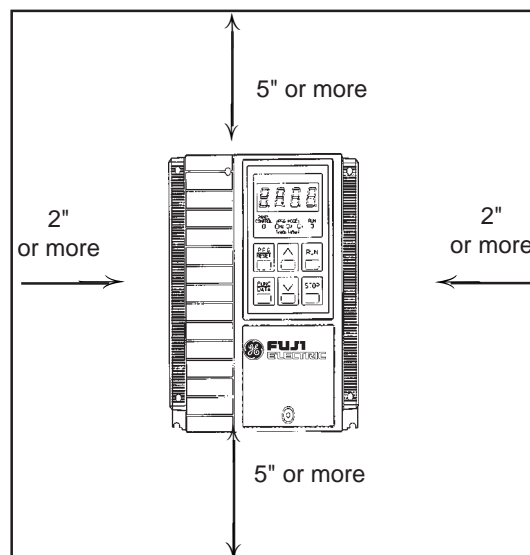

Figure 3-1. DRIVE MOUNTING CLEARANCE
- Install at a sufficient distance from other equipment, walls, or wiring ducts as shown in Figure 3-1 (these clearances are required to allow the heat generated by the Drive to escape).
NOTE: When installing **two or more Drives** in close proximity, allow sufficient space as shown in Figure 3-1 and install them in a horizontal row. If they must be installed in a vertical column, at least 19.7 inches (50cm) internal space must be provided between each one or a ventilation baffle should be provided to prevent the ambient temperature from rising.